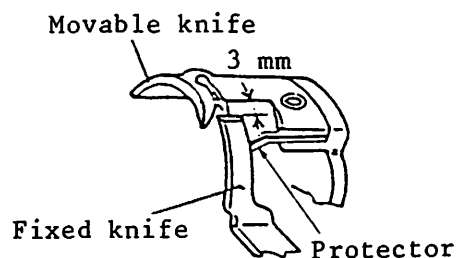

Fig. 10.12
- (1) The standard knife engagement is that the movable knife starts engaging with the fixed knife when they are positioned as shown in Fig. 10.12.